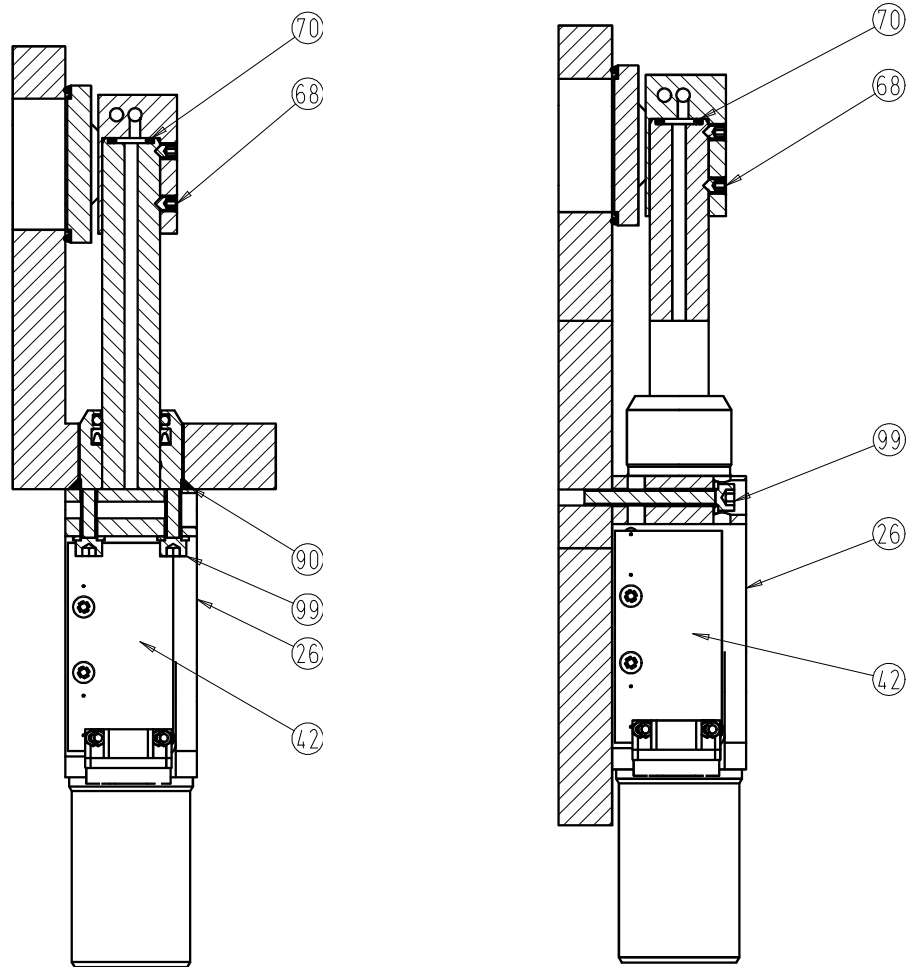

Figure 3-1
1. Mount actuator to the chamber, use screws (99) M6x50 mm; see «Figure 3-1» on page 8.